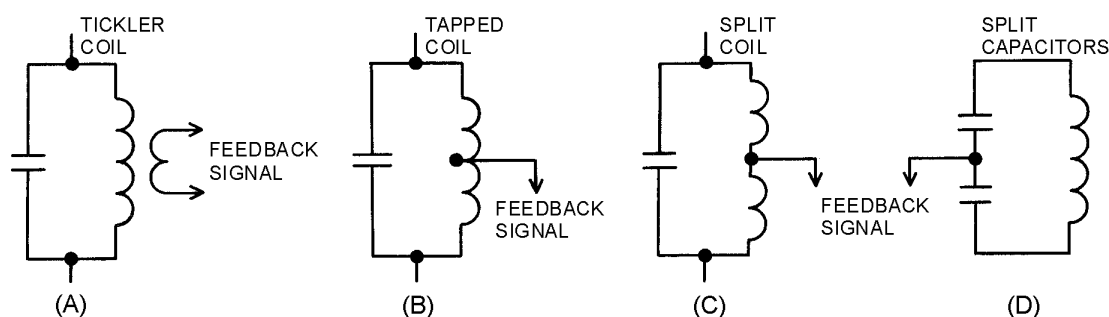

Figure 2-7.—Feedback signals.
Chapter 1 described the resonant or tank circuit and how a sinusoidal signal is generated by the action of an inductor and a capacitor. The feedback signal is coupled from this circuit by either of two means. The first method is to take some of the energy from the inductor. This can be done by any one of the three ways shown in figure 2-7, views (A), (B), and (C). When an oscillator uses a TICKLER COIL, as shown in view (A), it is referred to as an ARMSTRONG OSCILLATOR. When an oscillator uses a tapped coil (view (B)) or a split coil (view (C)), it is referred to as a HARTLEY OSCILLATOR. The second method of coupling the feedback signal is to use two capacitors in the tank circuit and tap the feedback signal between them. This is shown in view (D). An oscillator using this method is referred to as a COLPITTS OSCILLATOR. Each of these particular oscillators is named after the person who originally designed them.